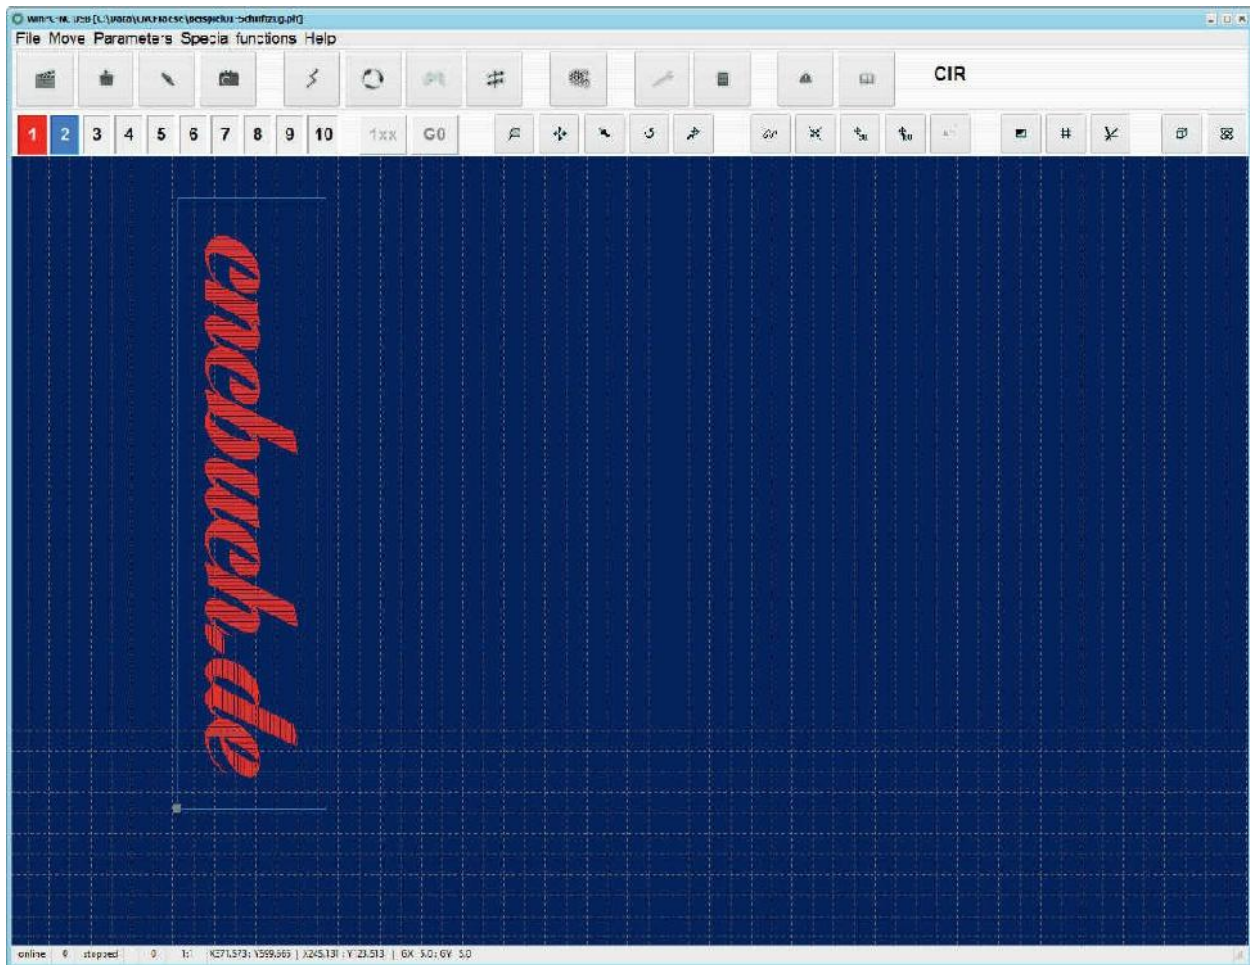

Fig. 2.105 The opened sample file (the values in your own control window may vary)
4. Use the *File* → *Open* command to open the .plt file you extracted from the *sample-plot-file.zip* archive. The text will be displayed in the program window, as shown in figure 2.105.
functionality. In figure 2.105, the text is red, has a blue frame, and the numbers 1 and 2 (above the main window) are colored to match. In WinPC-NC, this means that the planned cut requires two separate tools. The text itself will be cut to a depth of 2 mm, while the frame will be cut completely free from the rest of the workpiece. This means cutting to a depth of 5.5 mm to cut all the way through the 5 mm blank.